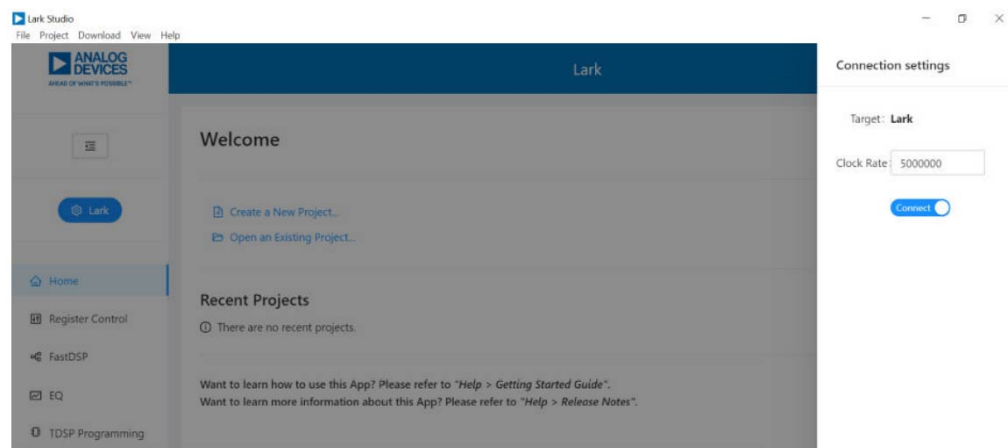

Figure 4. Connect with EVAL-ADAU1861EBZ
6. Click **Target Connection** in the left navigation panel, and configure the **Connection settings** panel that opens on the right to set up the connection. If the USB connects, **Target Connected** displays (see Figure 4).